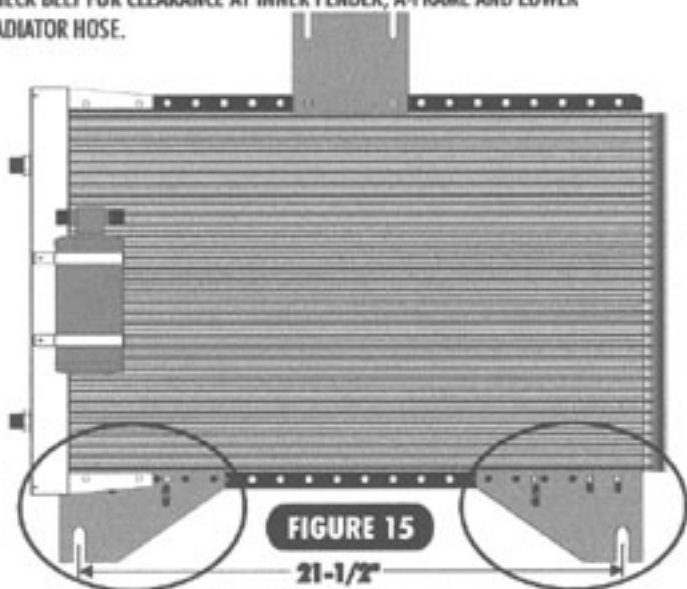

FIGURE 15
•MOUNT CONDENSER ASSEMBLY TO FRONT SIDE OF RADIATOR SUPPORT USING TWO OEM BOLTS FROM UPPER RADIATOR MOUNT AND TWO OEM BOLTS FROM BOTTOM OF SUPPORT RODS. (REMOVE TOP 2 OEM BOLTS, LOOSEN LOWER TWO OEM BOLTS). SEE FIGURE 15. (ATTACH BRACKETS PER INSTRUCTIONS BELOW).
- REFER TO THE CONDENSER VIEW IN FIGURE 15. "RIGHT" AND "LEFT" HERE PERTAIN TO VIEWING THE CONDENSER FROM THE FRONT.
- FOR THE DRIVER SIDE, FIND THE RIGHT-MOST HOLE WHICH CORRESPONDS TO THE YEAR OF THE CAR FOR WHICH THE INSTALLATION IS BEING PERFORMED, AND ALIGN THIS HOLE WITH THE RIGHT-MOST HOLE ON THE CONDENSER. (NOTE: DRIVER-SIDE BRACKET AND HOLE POSITIONS ARE **NOT** MIRROR IMAGES OF PASSENGER SIDE. MAKE SURE TO REFER TO CORRECT DETAIL IN FIGURE 15.) CHECK DISTANCE BETWEEN SLOTS.